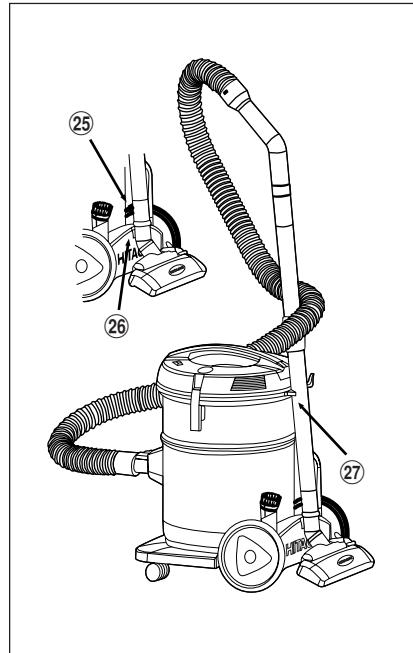

Fig. 17 Storing the vacuum cleaner
1. Slide the nozzle hook ②5 of the rug and floor tool into the hook supporter ②6 at the rear of the dolly.
2. Coil the hose around the extension pipe to make it compact and stable and rest the extension pipe on the pipe rest ②7 as shown in Fig. 17.